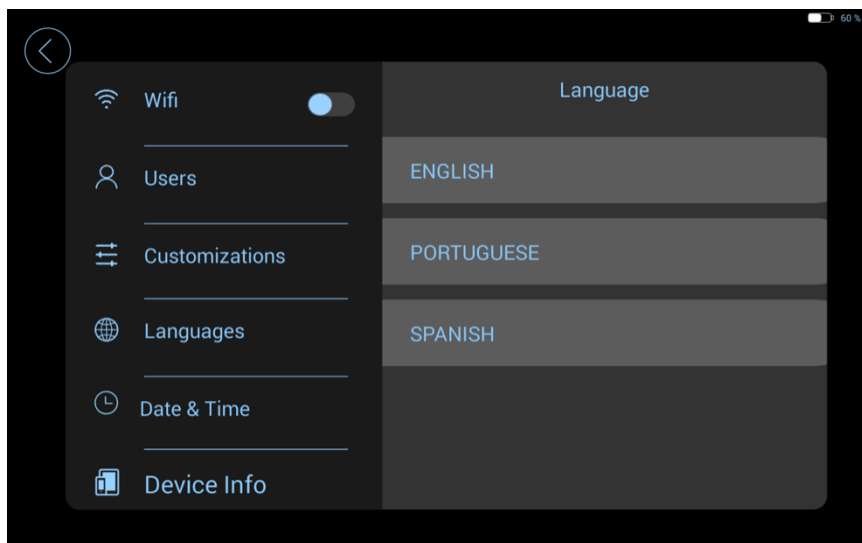

Figure 16. Setting the language interface
16. Click Language: Language, set the software language (Figure 16).